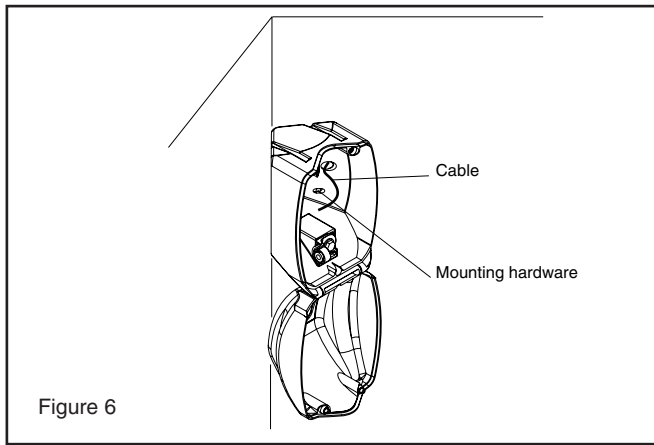
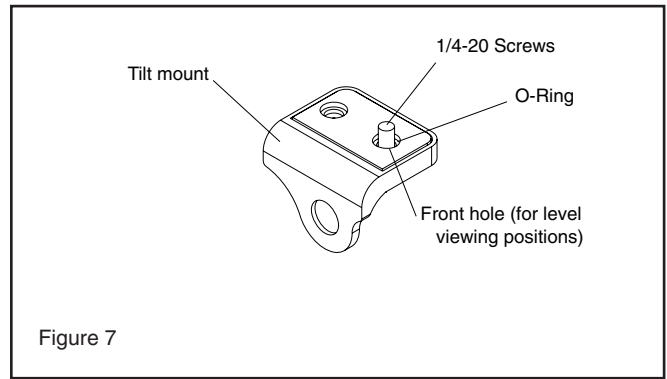

Figure 6
Figure 7
- Feed the cable through the access hole and place the housing at the marked location. Using appropriate hardware, mount the housing to a sturdy corner (Figure 6).
- To attach a camera with a maximum camera length of six (6) inches:
- If the camera is to be placed from a level viewing angle to a 30° viewing angle, use a 1/4-20 screw (I) in the front hole of the tilt mount (Figure 7).